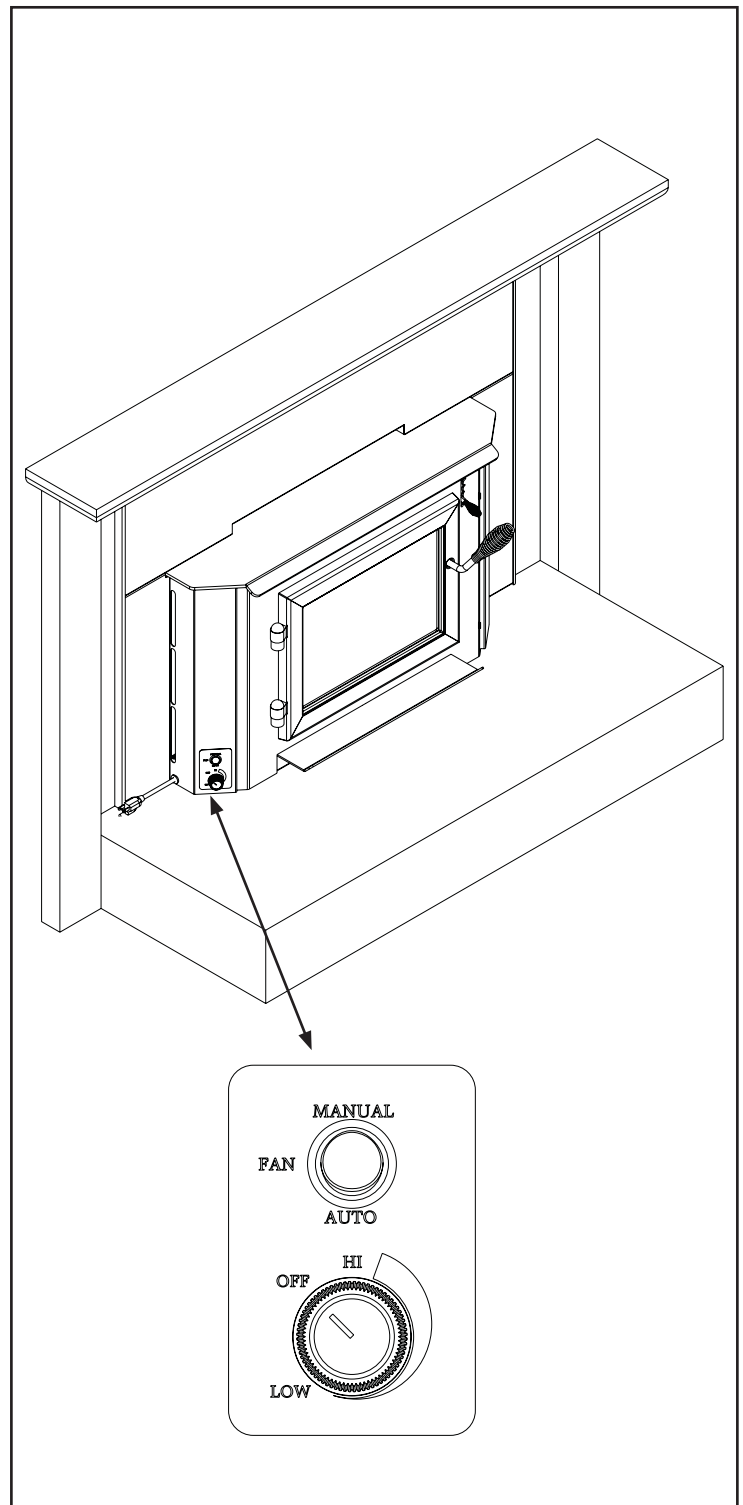

Figure 14.1
1. The blower will turn on/off automatically when set to AUTO. **Figure 14.1.**